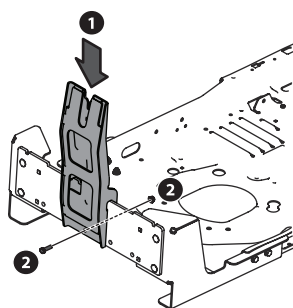

Figure 4
3. Install the vertical support onto the mounting assembly on the tractor by hooking it over the mounting assembly between the two tabs as indicated in (1) Figure 4.
4. Secure the vertical bagger support to the mounting assembly with a hex bolt (710-0376) and flange lock nut (712-04063) from hardware pack 689-00567. See (2) Figure 4.